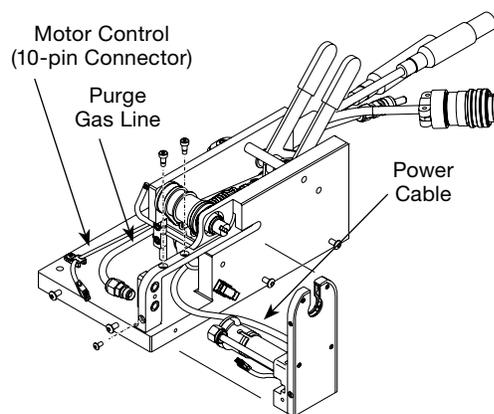

Figure 56 Reconnect the Internal Cabling
14. Reconnect the purge gas line. See Figure 56.